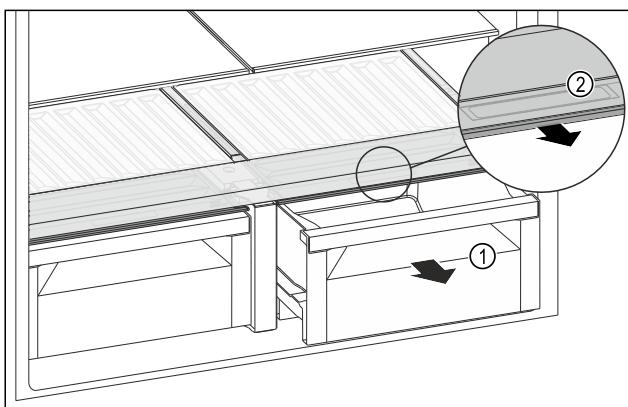

Fig. 138
- Pull out the drawer Fig. 138 (1).
- Grasp the recessed grip Fig. 138 (2) on the compartment lid and pull the compartment lid forwards at the same time.